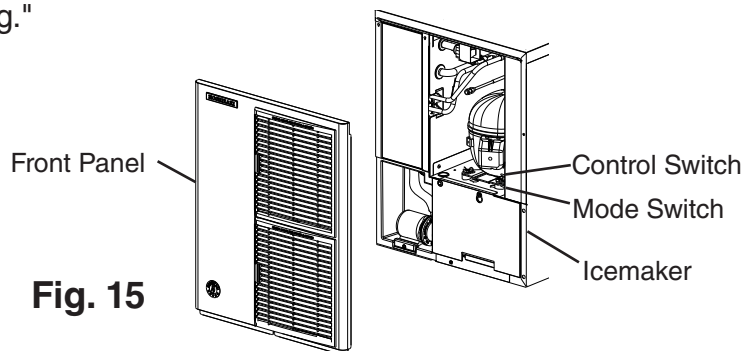

Fig. 15
- 2) If not already removed, remove the front panel. See Fig. 15.